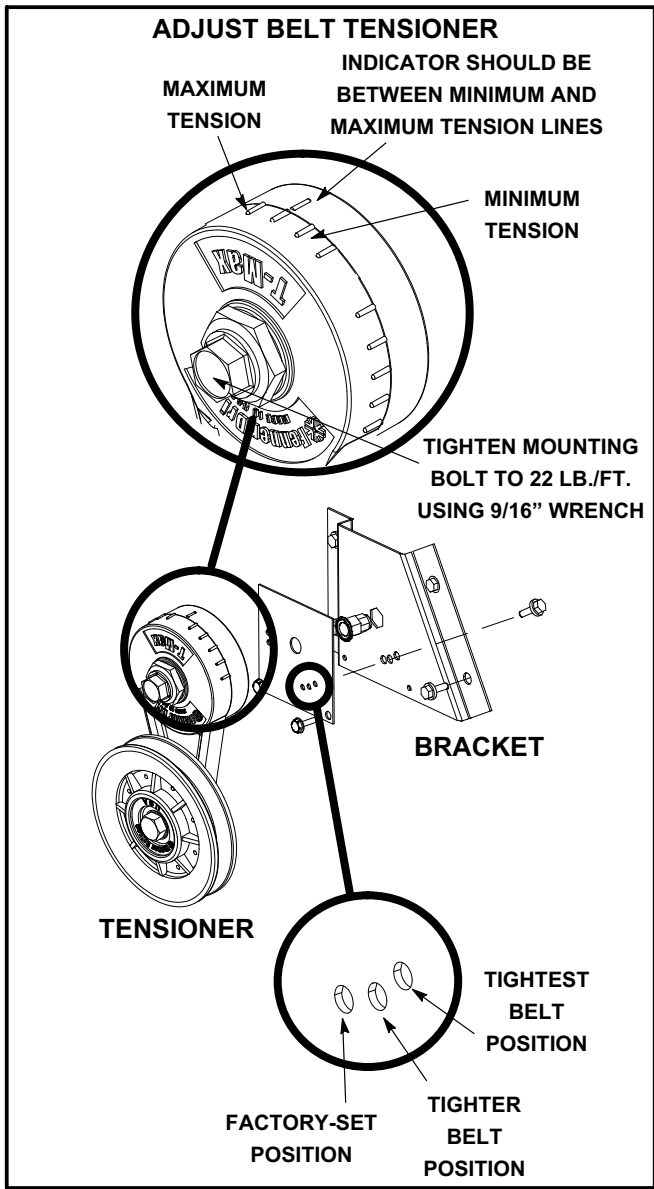

FIGURE 24
- 2- Remove bracket from blower housing. See figure 24.